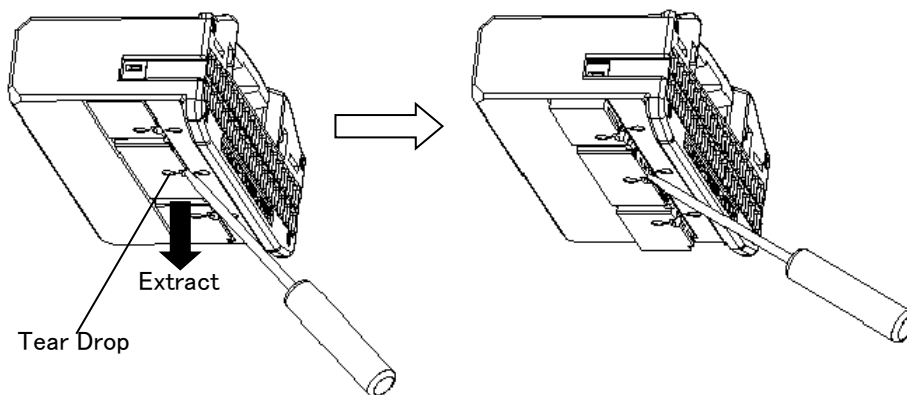

Fig.11
(1) Insert a tool such as a 1mm blade screw driver, into the window of the retainer pointed by the tear drop mark. See Fig.11.
(2) Draw out the retainer, about 1mm, to pre-assembled condition. Confirm that all of the projection is unlocked. See Fig.11.